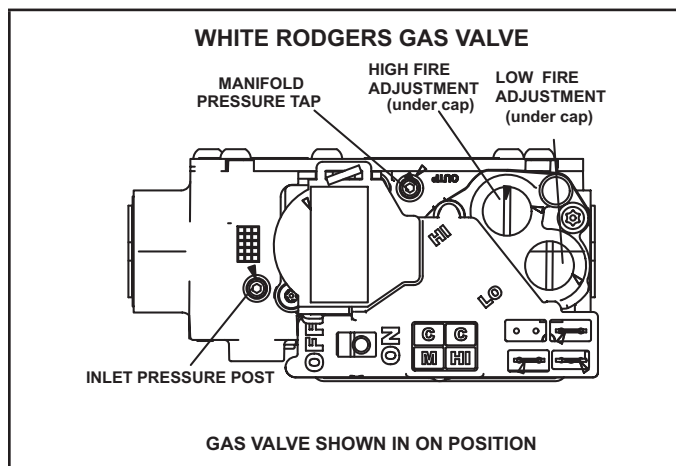

FIGURE 64
Gas Valve Operation (FIGURE 64)
- 6 - Move gas valve switch to **OFF**. See FIGURE 64.
- 8 - Move gas valve switch to **ON**. See FIGURE 64.
An inlet post located on the gas valve provides access to the supply pressure. See FIGURE 64. Back out the 3/32 hex screw one turn, connect a piece of 5/16 tubing and connect to a manometer to measure supply pressure. See TABLE 15 for supply line pressure.
A manifold pressure post located on the gas valve provides access to the manifold pressure. See FIGURE 64. Back out the 3/32 hex screw one turn, connect a piece of 5/16 tubing and connect to a manometer to measure manifold pressure.
- 5 - If necessary, make adjustments. FIGURE 64 shows location of high fire and low fire adjustment screws.